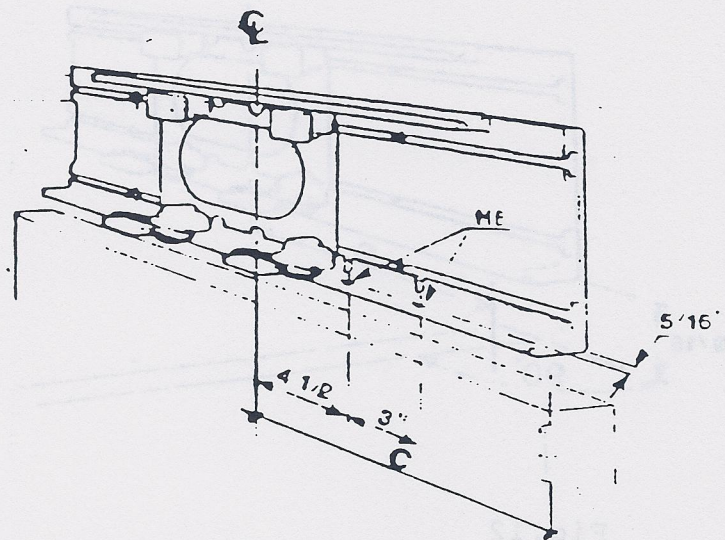

Fig.11
3. Drill and install M-8 nut inserts for the Track system (Fig.11) as shown in installation drawings.